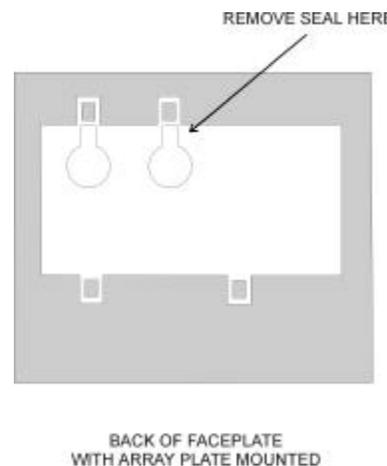

Figure 8-6
6. Remove the yellow seal from the wax inlet opening on the back of the Printhead and secure the faceplate to the Printhead Housing Assembly. (Figure 8-6)